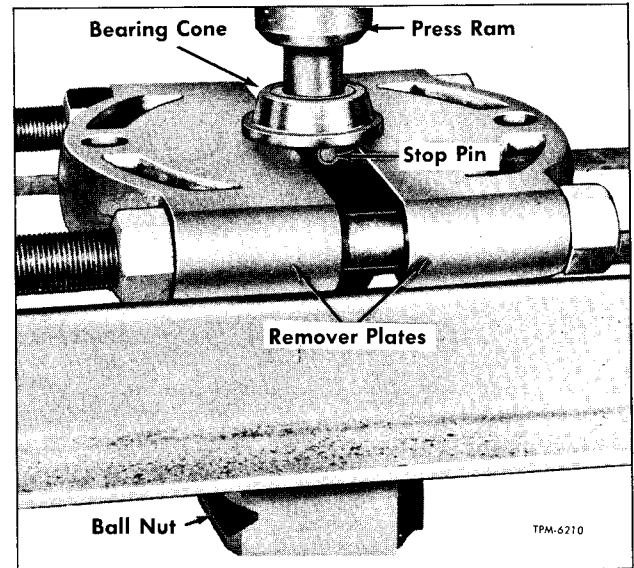
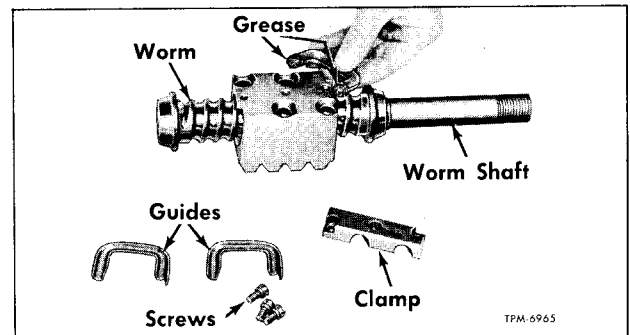

Figure 12—Removing Lower Worm Thrust Bearing Cone
Figure 13—Ball Guide Removal and Installation (Typical)
11. Remove lower thrust bearing cone (30) from worm shaft (31), using bearing remover plates (J-8176) (fig. 12).
12. Remove lower ball nut pin stop (27).
13. Remove screws attaching ball guide clamp to ball nut (5). Remove clamp. Pull ball guides out of ball nut as shown in figure 13. Remove balls (6) from guides by separating guides.
15. Remove upper thrust bearing cone (32) from worm shaft (31), using bearing remover plates (J-8176). Refer to figure 12. Remove upper ball nut stop pin (27) from worm shaft.
16. Remove Pitman shaft oil seal (15) from gear housing (11) and discard.
17. Remove worm shaft oil seal (24) from top cover (25) and discard. New oil seals should be used when reassembling the steering gear.